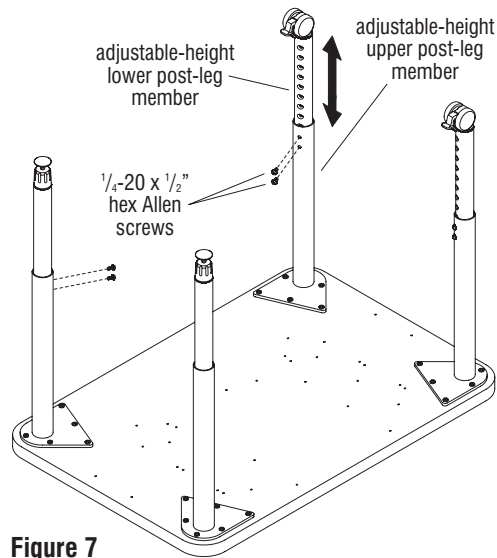

Figure 7
1. Hold the adjustable-height lower post-leg member and remove two  $\frac{1}{4}$ -20 x  $\frac{1}{2}$ " hex Allen screws ( $\frac{5}{32}$ " Allen wrench) from the upper post-leg member. Move the lower member up or down to the desired height (1" increments). Align the two alignment holes on the lower member with two holes on the upper leg member and secure with two  $\frac{1}{4}$ -20 x  $\frac{1}{2}$ " hex Allen screws. Do not over-tighten. Repeat this process for the remaining legs (Figures 7 & 8).